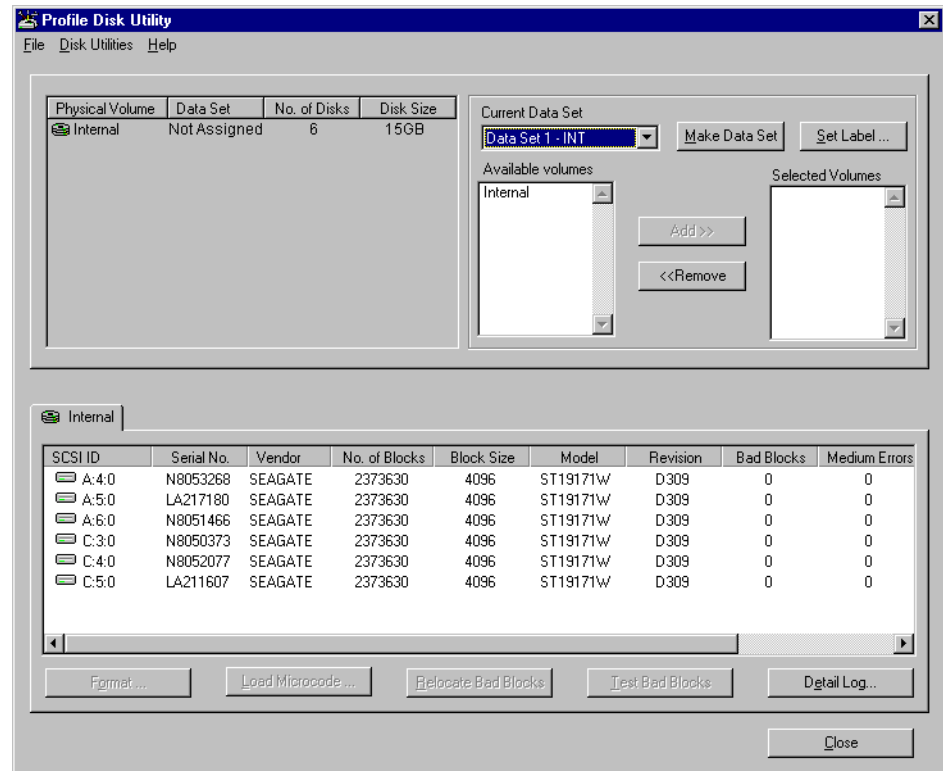

Figure 12. Profile Disk Utility
4. Choose **Start | Programs | Profile Applications | Profile Disk Utility** to open the Profile Disk Utility. The Profile Disk Utility appears as shown in Figure 12.
5. In the Profile Disk Utility, verify that the Internal Physical Volume description includes the number of disks installed in the system. Also, check the SCSI IDs on the **Internal** tab, shown in Figure 12, for the following SCSI IDs: